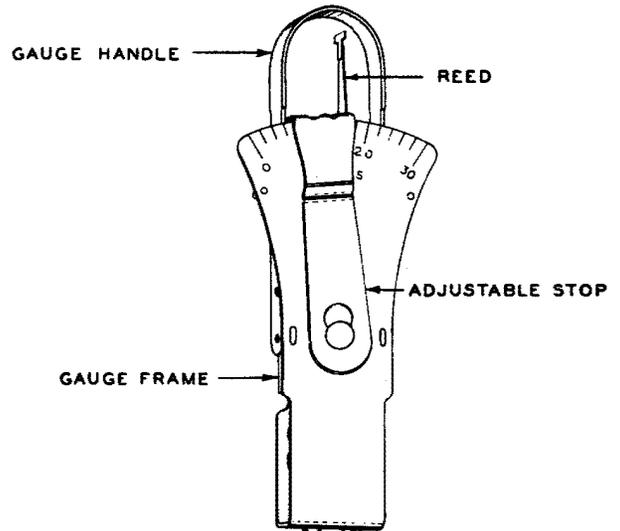

Fig. 2 - No. 70H Gram Gauge with the Handle Folded Back
- 1.04 To protect the reed of a fan-type gauge from damage when the gauge is not in use, the gauge handle when furnished should be folded back and locked in position with the reed in the position shown in Fig. 1 or Fig. 2.